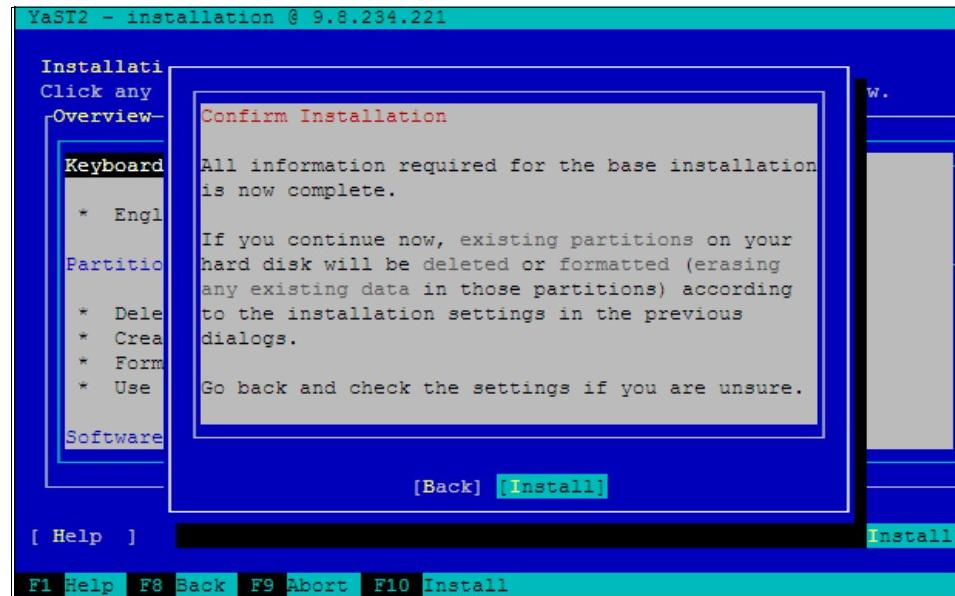

Figure 9-22 Confirm Installation
16. Choose [Install] to start the installation, as shown in Figure 9-22 on page 383.